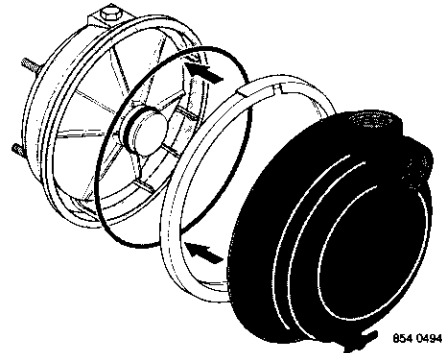

Figure 18 – Assemble Pump
- Put O-Ring in groove on face of flange; put pump halves together (see Figure 18).